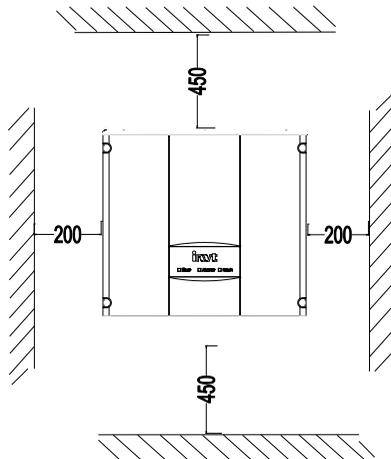
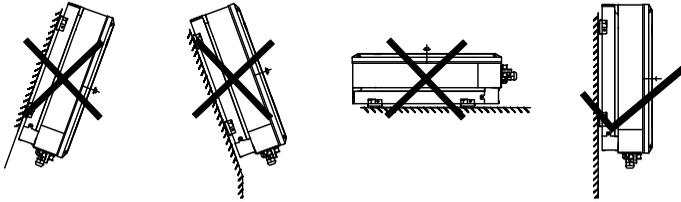

Figure 3.2 Installation space
Figure 3.3 Installation position
- (1) Height from ground level should be enough to ensure that display and status LEDs are easy to read.
- (2) Select a well ventilated place sheltered from direct sun radiation and rain.
- (3) Allow sufficient space around the inverter to enable easy installation and removal from the mounting surface. Refer to Figure 3.2.
- (4) The environment temperature is between -25°C ~ 60°C .
- (5) The installation position keeps away from the interface of other electrical devise.
- (6) The inverter needs to be installed on a firm and sturdy surface, such as wall and metal bracket and so on.
- (7) The installation surface should be perpendicular to the horizontal line. Refer to Figure 3.3.
The inverter should be mounted in a vertical position of 90° to the horizontal line as shown in figure 3.3.